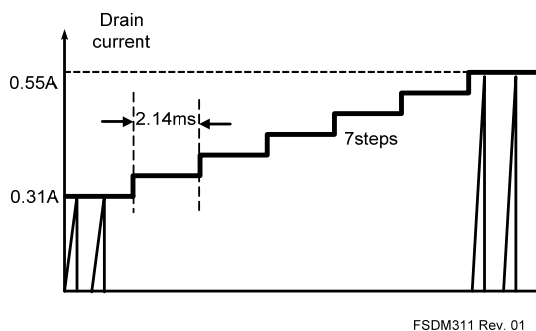

Figure 20. Internal Soft-Start
5. Soft-Start: The FPS has an internal soft-start circuit that slowly increases the feedback voltage, together with the SenseFET current, right after it starts up. The typical soft-start time is 15ms, as shown in Figure 20, where progressive increment of the SenseFET current is allowed during the start-up phase. The soft-start circuit progressively increases current limits to establish proper working conditions for transformers, inductors, capacitors, and switching devices. It also helps to prevent transformer saturation and reduces the stress on the secondary diode.